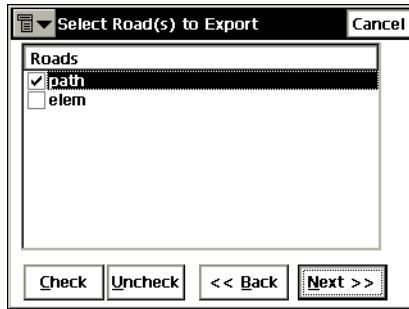

Figure 5-17. Select Road(s) to Export
- If *All* or *None* is selected in the *Points* drop-down menu and *Roads* checked, the *Select Road(s) to Export* screen displays. On this screen, select the roads (if available) to export (Figure 5-17).